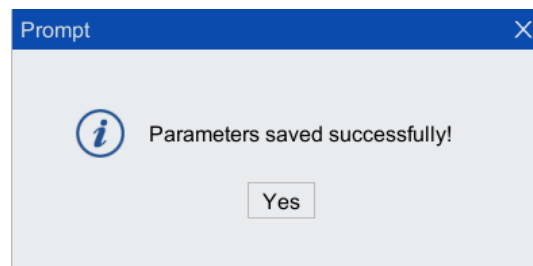

Figure 4-8 Save successful prompt box
Step13. Click <Yes> in the dialog box that pops up successfully to save the parameters. As shown in Figure 4-8.